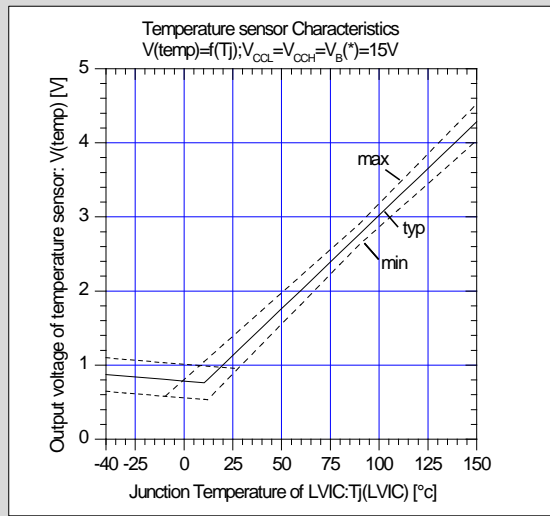
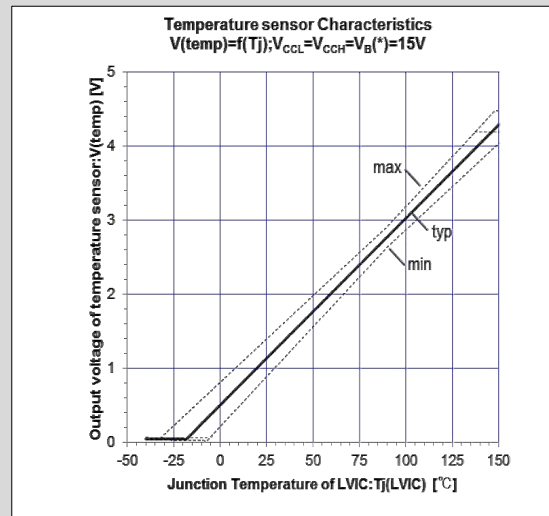

Fig.3-24 LVIC temperature vs. TEMP output voltage characteristics without pull-down resistor
Fig.3-25 LVIC temperature vs. TEMP output voltage characteristics with 22kΩ pull-down resistor
- Fig.3-24 shows the LVIC temperature versus TEMP output voltage characteristics. A Zener diode should be connected to the TEMP terminal when the power supply of MPU is 3.3V. Fig. 3-25 shows the LVIC temperature versus TEMP output voltage characteristics with $22k\Omega$ pull-down resistor $R_{pulldown}$.